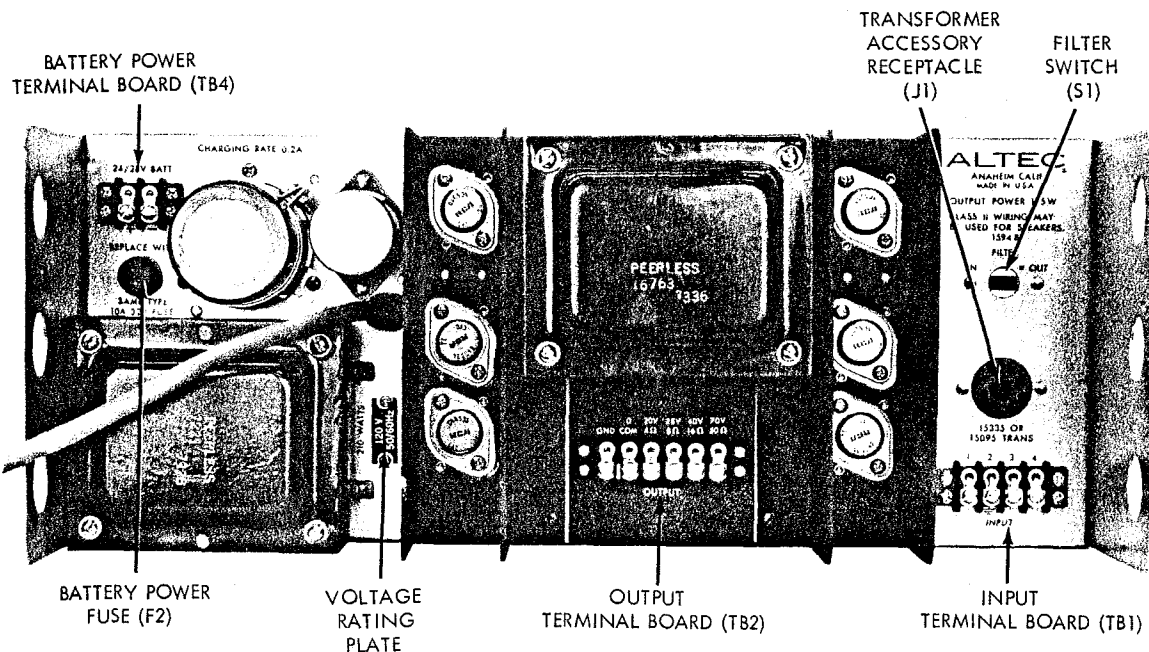

Figure 6. Rear View of 1594B Power Amplifier
| Figure 6. Rear View of 1594B Power Amplifier | 5 |
1 to 2 and 3 to 4 on TB3). The power input nameplate, adjacent to the power cord on the chassis, is mounted to show the appropriate side specifying the connections (see Figure 6). Verify that line voltage is in accordance with the voltage rating **before** connecting the 1594B to line power.
- Step 4. Remove voltage-rating plate (see Figure 6) from chassis, reverse and reinstall to show 240V ac rating.
If desired, the 1594B may be connected to an external 24/28 volt battery with minus (-) as ground. Terminals for the dc power connections are on TB4 (see Figures 6 and 12). If ac power fails, transfer to dc power is instantaneous, automatic and silent. A built-in charging circuit supplies a 100 mA trickle current to maintain battery charge during ac operation. The battery power supply is not operated by the primary power ON-OFF switch on the front panel. If switching of battery power is desired, an external relay or switch should be provided by the user.
Input connections may be either direct-coupled or transformer-isolated at the INPUT terminal board (see Figure 6). Direct coupling is accomplished by connecting the input leads (shielded conductor recommended) to terminals 1 and 2. Terminal 2 is ground. Table I lists the terminals and applications of the INPUT terminal board.
For transformer-isolated input, a plug-in 15095A or 15335A Line Transformer must be plugged into receptacle J1 (see Figure 6). The input leads are connected to terminals 3 and 4 of the INPUT terminal board.
Output transformer taps provide connections for 4-ohm, 8-ohm and 16-ohm speakers, plus a 70.7-volt speaker distribution system (see Figure 6). For 25-volt speaker distribution systems, use the 8-ohm tap. Connect to the terminal of desired impedance and terminal 5 (common). Terminal functions and designations are listed in Table II. If stray electrostatic radiation causes interference, strap terminal 5 (common) to terminal 6 (ground).
A screwdriver-operated FILTER IN-OUT switch is located on the rear of the chassis (see Figure 6). The switch is placed in the OUT position when the 1594B is shipped from the factory.
The ac primary power fuse is mounted on the front panel (see cover photo). The battery power fuse is located on the rear of the chassis (see Figure 6). If fuse replacement is required, determine and correct any cause of failure before replacing fuse. Install an identical fuse (see **PARTS LIST**) by unscrewing fuse holder, replacing fuse and resealing fuse holder.